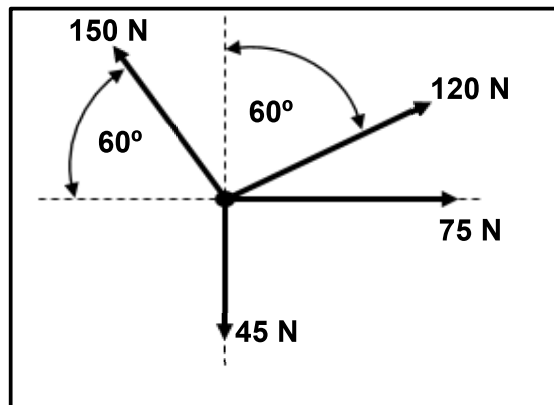

FIGURE 8.1
8.1 FIGURE 8.1 below shows a system of forces with four pulling forces acting onto the same point.
HINT: Draw and complete the diagram in FIGURE 8.1. Show ALL the horizontal and vertical components before you do the calculations.